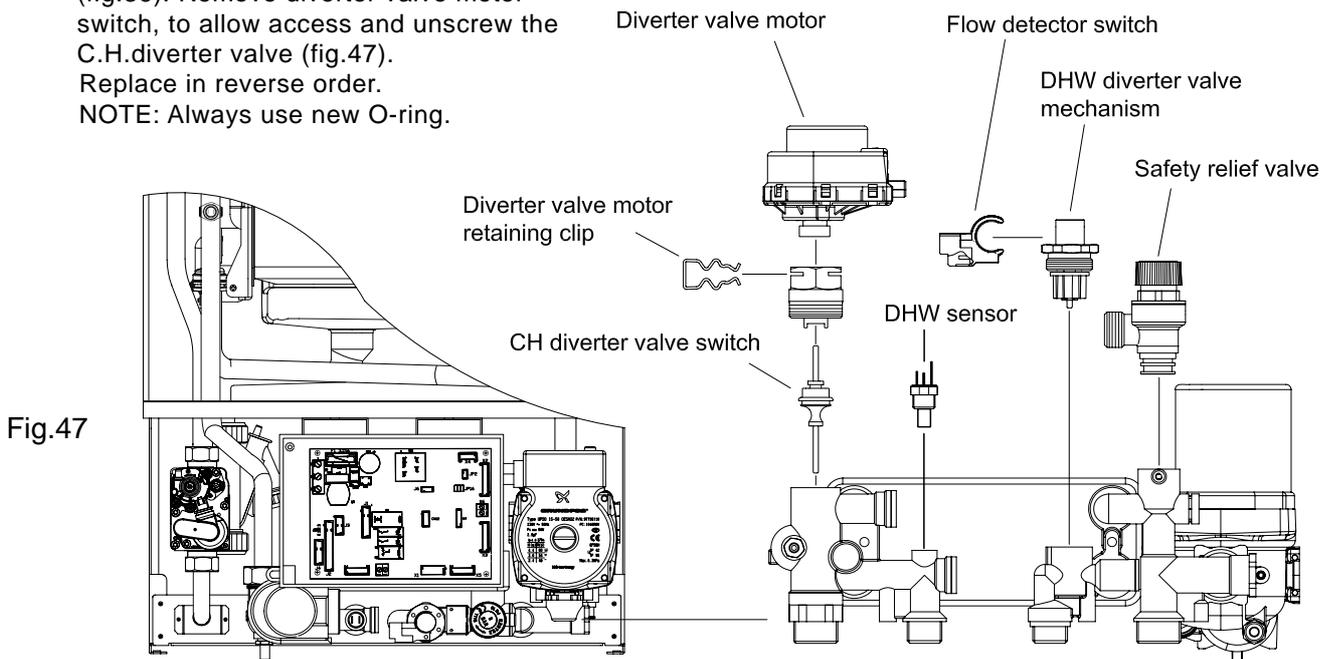

Fig.47
8.13 TO REMOVE/REPLACE DIVERTER VALVE MOTOR (Fig. 47)
8.14 TO REMOVE/REPLACE C.H. DIVERTER VALVE (Fig. 47)
Close the on/off valves for the heating circuit and drain the water at drain point (fig.36). Remove diverter valve motor switch, to allow access and unscrew the C.H.diverter valve (fig.47).
8.15 TO REMOVE/REPLACE D.H.W. DIVERTER VALVE MECHANISM (Fig. 47)
8.18 TO REMOVE/REPLACE SAFETY RELIEF VALVE (Fig. 47)
8.19 TO REMOVE/REPLACE D.H.W. SENSOR (Fig. 47)